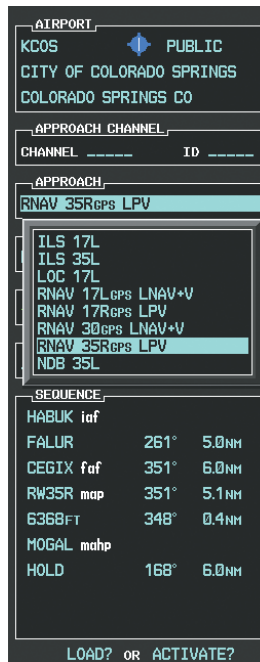

Figure 5-126 List of Available Approaches
c) Press the ENT Key. A list of available approaches for the destination airport is displayed as in Figure 5-126.